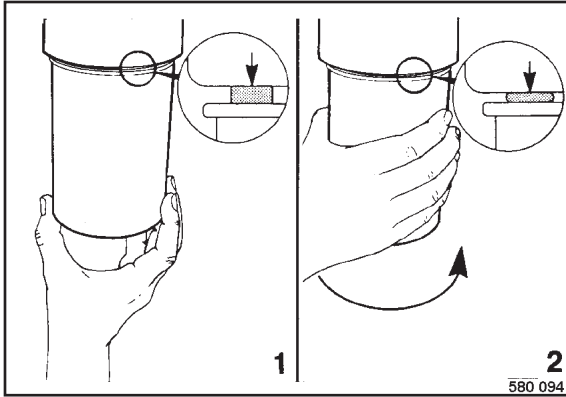

Fig. 107
- Turn the new filter cartridge (Fig. 107) on by hand, until the seal contacts.